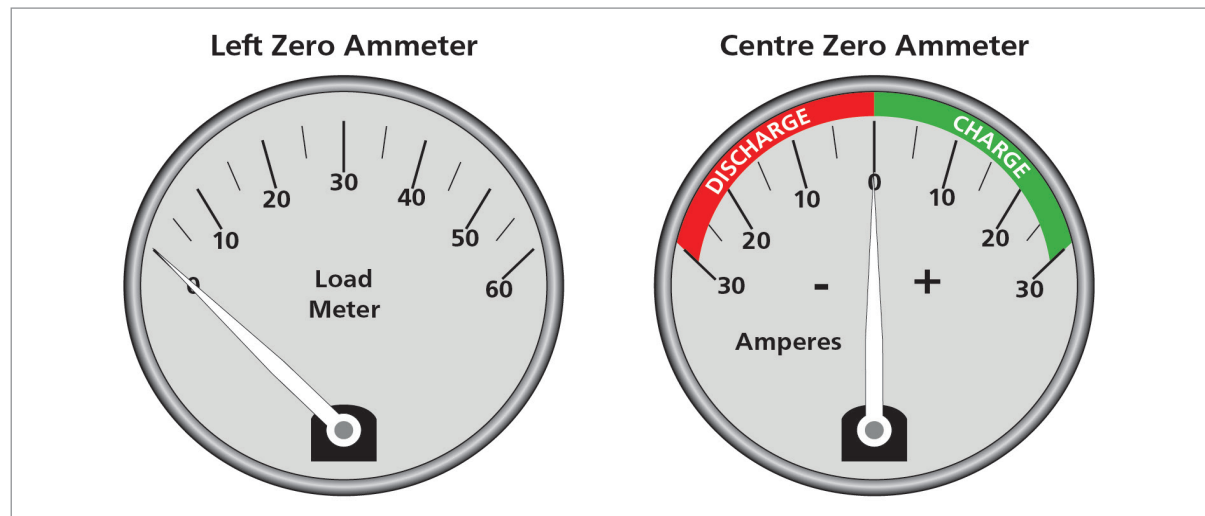

Figure 8.5 Simple ammeters
- The **charge/discharge** ammeter (or 'centre zero' ammeter) see Figure 8.5.
- The **generator ammeter or load meter** ('left zero' ammeter) see Figure 8.5.